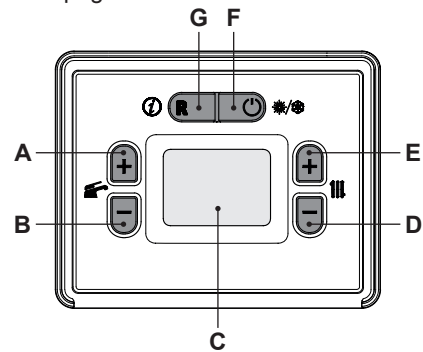

Figure 4.6
- 2 By using keys "D" or "E" (Figure 4.6) it is possible to modify the value of parameter A51 from 1 to **52** weeks (**52** = 1 year).
- 3 With the value flashing, pressing key "F" (Figure 4.6) will confirm the value entered and activate the function.
- 6 By using keys "D" or "E" (Figure 4.6) it is possible to modify the value of parameter A51:
- 7 With the value flashing, pressing key "F" (Figure 4.6) will confirm the value entered and activate the function.
- 9 From the parameter list, pressing key "F" (Figure 4.6) will exit the "programming mode."